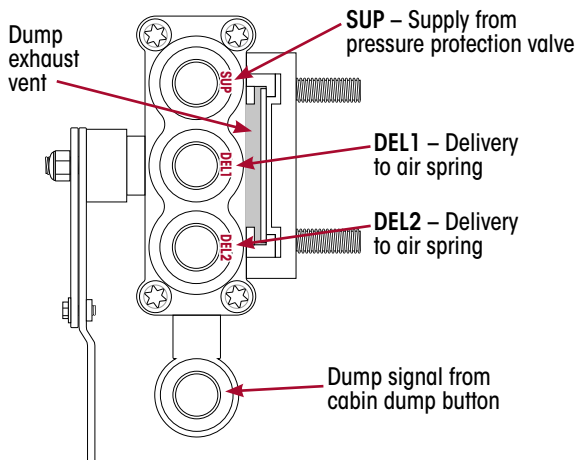
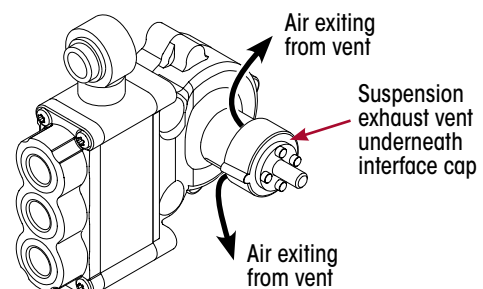

Figure 5: HCV Air Line Connections & Dump Vent
Figure 6: Suspension Exhaust Vent Under Interface Cap
- B). The HCV has two delivery ports to the suspension air springs. Connect an air spring air line to either HCV "DEL1" or "DEL2" delivery port. Refer Figure 5. If only one delivery port is to be used the other port must be plugged.
13. Rotate control arm downwards to around 20 degrees below horizontal. The air spring should now begin deflating through the HCV exhaust port, which is underneath the interface cap. Refer Figure 6. This is different from the dump air vent, which is under a cover on the rear of the valve. Refer Figure 5.
IMPORTANT: Height control valves will often continue to exhaust air from the exhaust, located under the interface cap, for several minutes after a vehicle has stopped. This is a normal operating function of the HCV as the vehicle stabilises, hence, does not indicate an HCV is leaking or faulty. Refer Figure 6.